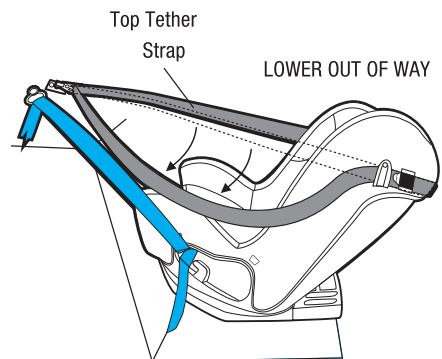

Figure 3
- Lower strap out of the way (refer Figure 3).